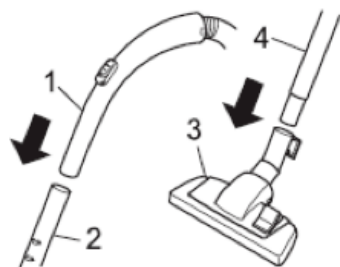
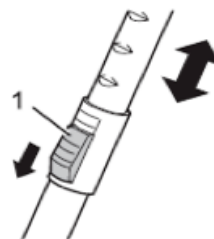

Fig.3
Fig.4
2. Insert the handle of the electric power hose (Fig. 3/#1) into the upper end of the electric telescopic wand. Be sure to align the 2 prong electrical connections as you press the two pieces together. (Fig 3/#2).
3. Attach the electric power nozzle (Fig. 3/#3) to the bottom end of the telescopic tube. Be sure to align the 2 prong electrical connections as you press the two pieces together. (Fig 3/#4).
4. Adjust the length of the telescopic tube. Press down the release latch on the tube to do this (Fig. 4/#1). Then pull the handle of the telescopic tube to extend it to your desired length (Fig. 3/#1). Let go of the release catch while pulling until it locks in place. You will hear a distinct click.